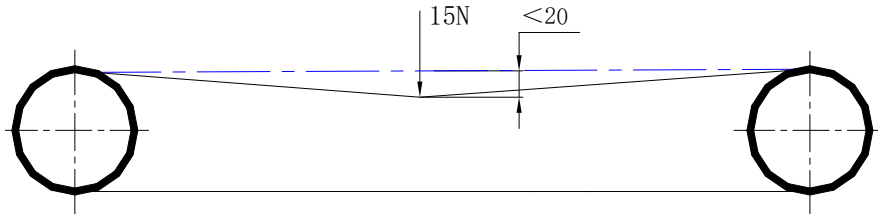

Fig. 3-1 Requirements for the tightness of the synchronous belt
a) Regular adjust the tightness of the synchronous belt, see Fig. 3-1 for the requirements about the tightness of the synchronous belt.